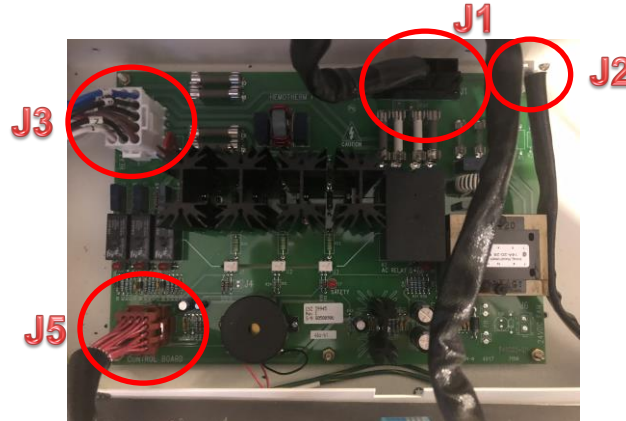

Figure 10 – Top View of Power Board in Place
7. Disconnect three (3) cables from the power board at J1, J2, and J3 as shown in Figure 10 above. For removal, pinch the sides of J2 and J3.
8. Using a 5/16" nut driver, remove the six (6) nuts from the studs that secure the power board.
NOTE: Ensure the power board is aligned as shown in *Figure 10* with J1 and J2 at the top of the board.